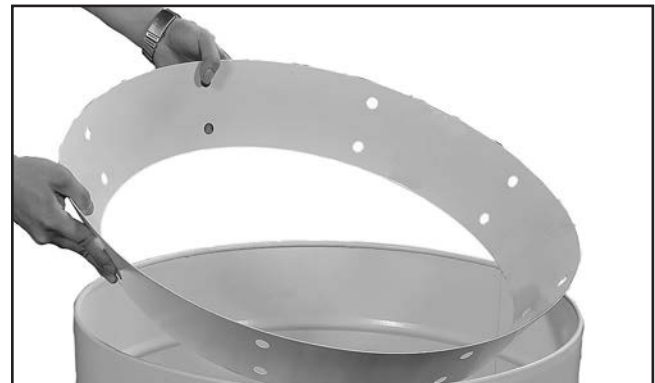

Figure 21. Example of inserting collection drum vacuum ring.
27. Place collection drum vacuum ring on bottom of collection drum (see **Figure 21**).